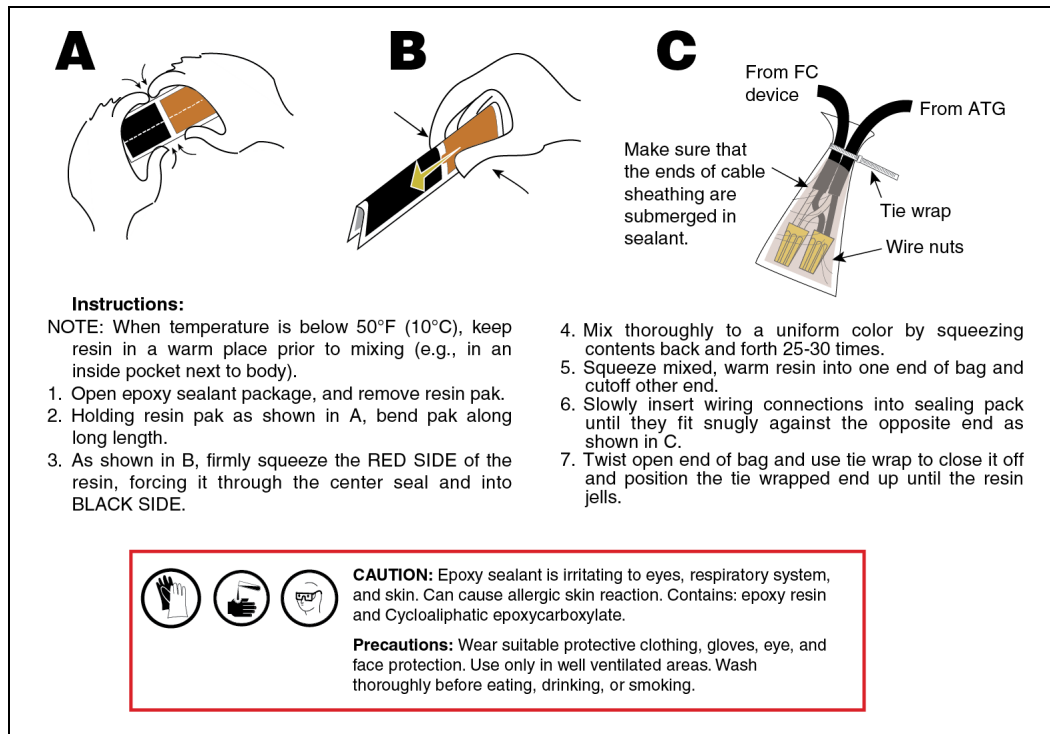

Figure 23. Epoxy Sealing FC Mag Probe and FC Pressure Sensor Field Connections
3. Seal each cable's connections in an epoxy sealant pack following the instructions in Figure 23.